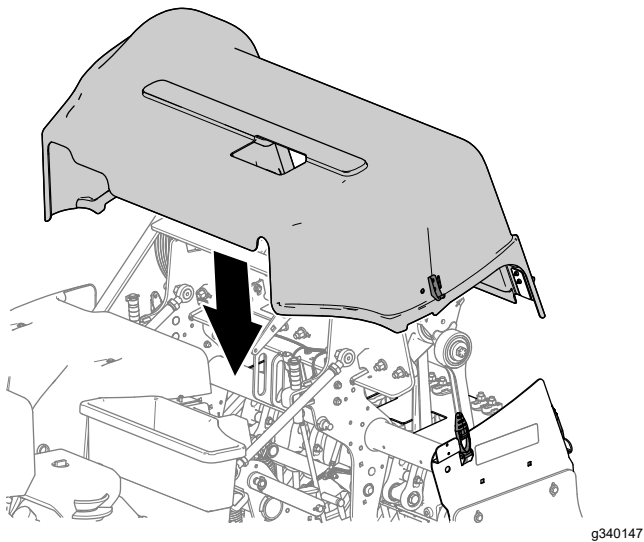

Figure 152
1. Align the coring-head cover to the machine as shown in Figure 152.